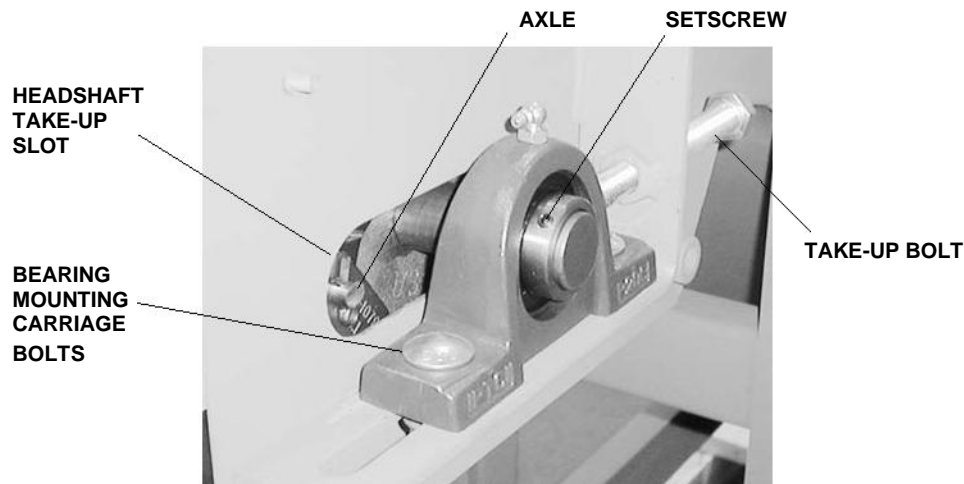

Figure 10: Headshaft take-up slot
- Loosen the setscrews on the flange bearing or pillow block bearing so that the headshaft can be moved laterally (Figure 10).
- C. If the headshaft has lateral movement in the bearings: Check the headshaft - bearing mounting carriage bolts for tightness (Figure 10). If either is loose, proceed as follows:
- F. Loosen the setscrews securing the bearings to the headshaft (Figure 10).